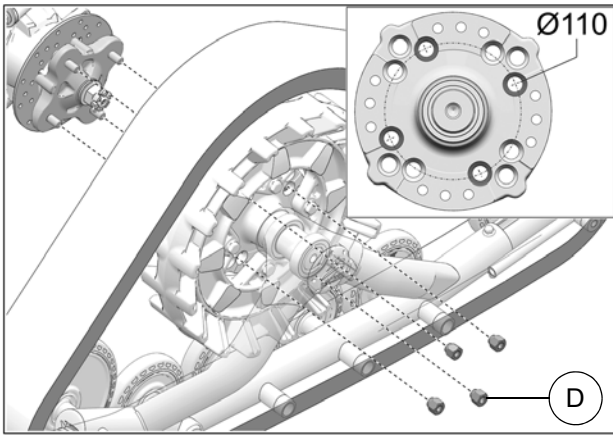

Fig. 18
7. Secure undercarriage to front hub using the provided M10 lug nuts (D). Use bolt circle Ø110 mm. See Fig. 18